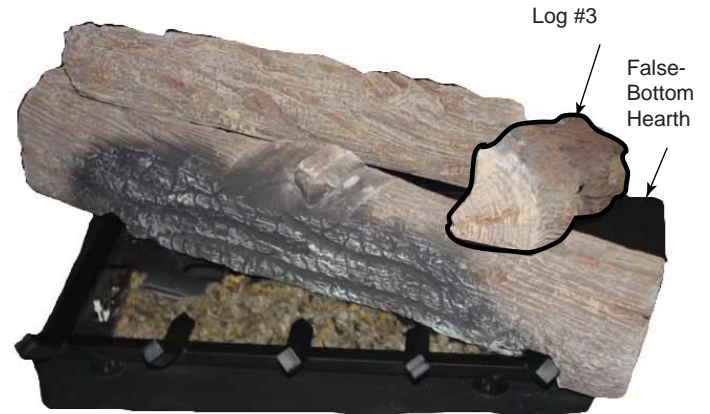

Figure 62
3. Position log #3 on the key provided on the rounded end of log #1. The other end sits on the "false-bottom hearth" (the sheet metal surrounding the burner and supporting the grate), just outside of the grate. The base of the log should be about 1" from the end of log #2. *Figure 62*